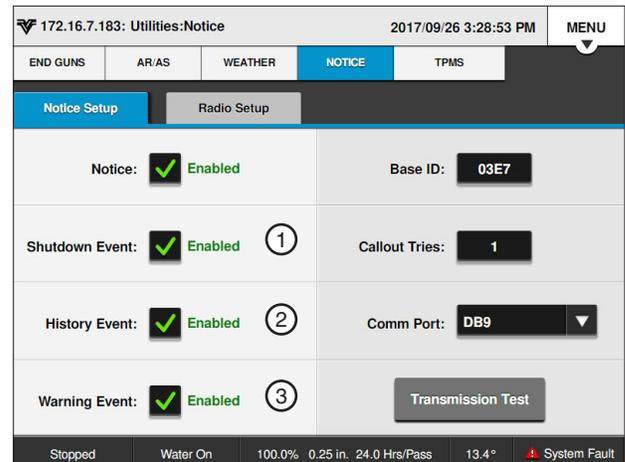

Figure 77-1 1. Shutdown Event 3. Warning Event
1. Push **Menu**, **Utilities**, **Notice** and **Notice Setup** to display the Notice screen. Refer to Figure 77-1.